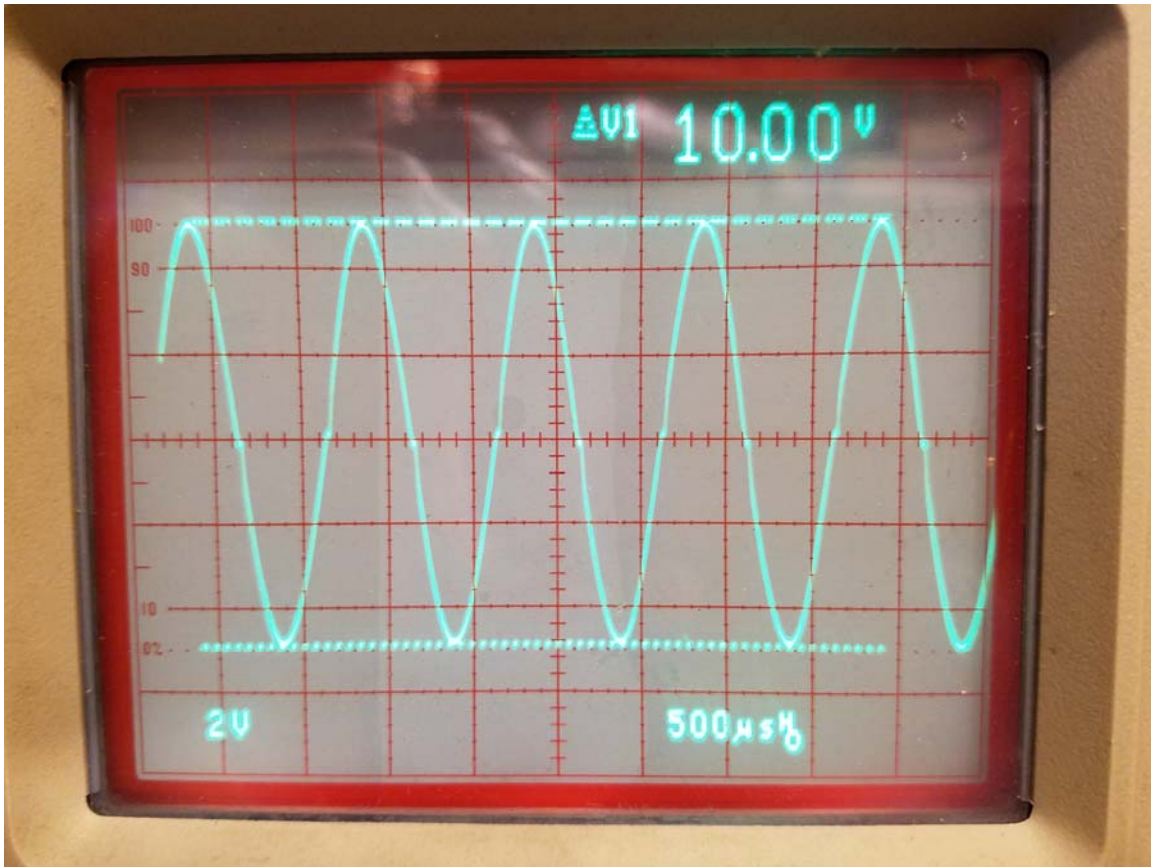

Figure 3. Channel 1 isolated output with input 10 Vpp signal at 1000 Hz.
5. Tune potentiometer R6 to center the output signal swing symmetrically about a zero voltage offset as shown in Figure 3.